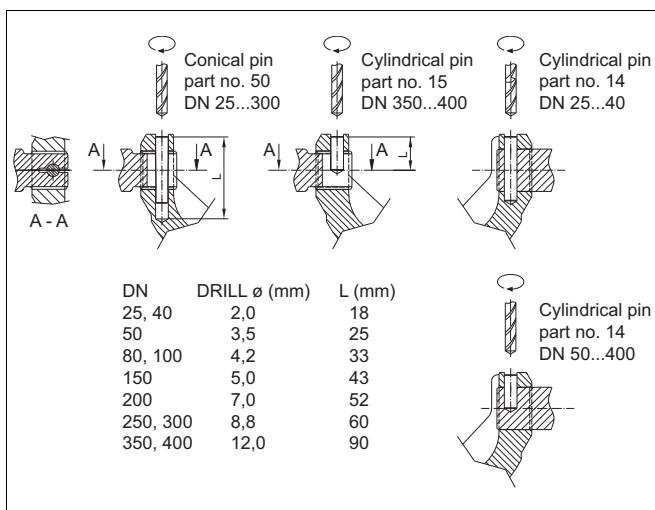
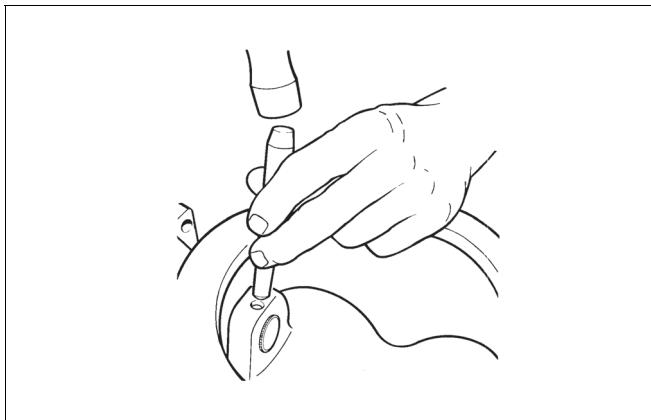

Fig. 23 Drilling the pin, R1L and R2_S
Fig. 26 Locking a pin
- Remove the pin lockings either by grinding or using a spindle. Detach the pins (14 and 15) by drilling, Fig. 23. Be careful not to damage the original bores. Note! The pins and the drive shaft have been secured by welding in the titanium version and in the acid-resistant high-consistency version S.
- Please note the depth of the hole (L) for the conical pin (Fig. 23). Put the pins (14, 50) in their places and lock them (Fig. 26). Both pins are locked with TIG welding in the high-consistency acid-resistant version and in the standard and high-consistency titanium versions. Moreover, the drive shaft is welded to the segment in the high-consistency versions. Contact the manufacturer for more information.